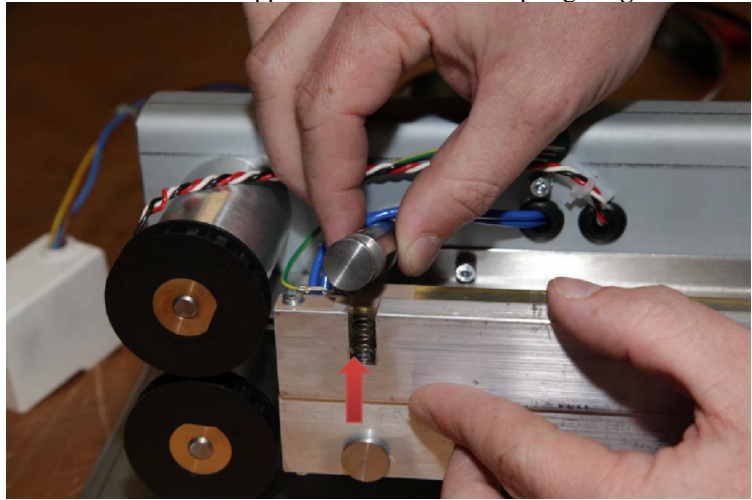

Figure 6
6. Release the left element support and watch for the spring. **Fig. 6**